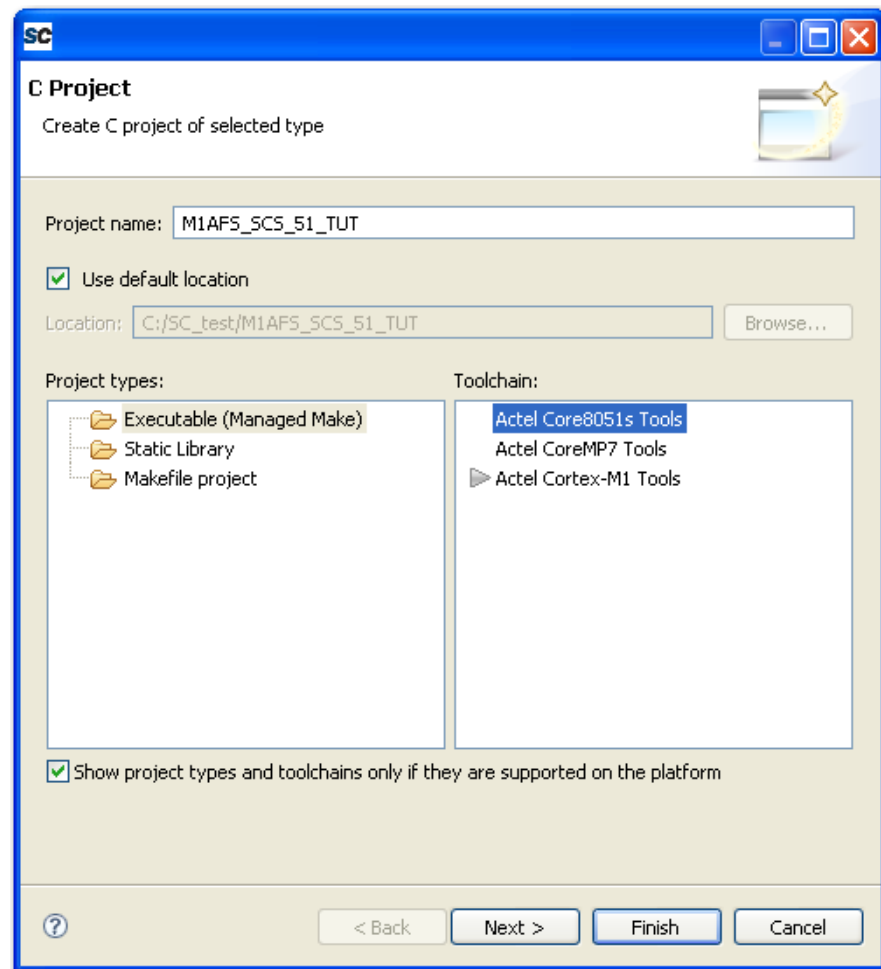

Figure 1-3 · Selecting Target Device
3. Select Actel Core8051s Tools for the toolchain. Click Finish (Figure 1-3).